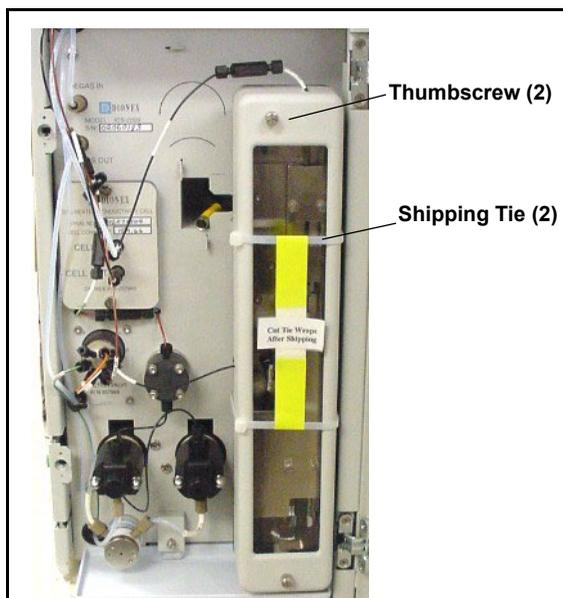

Figure 17. ICS-1500 Column Heater Setup
1. Cut off the two shipping ties from the column heater and remove them (see Figure 17).